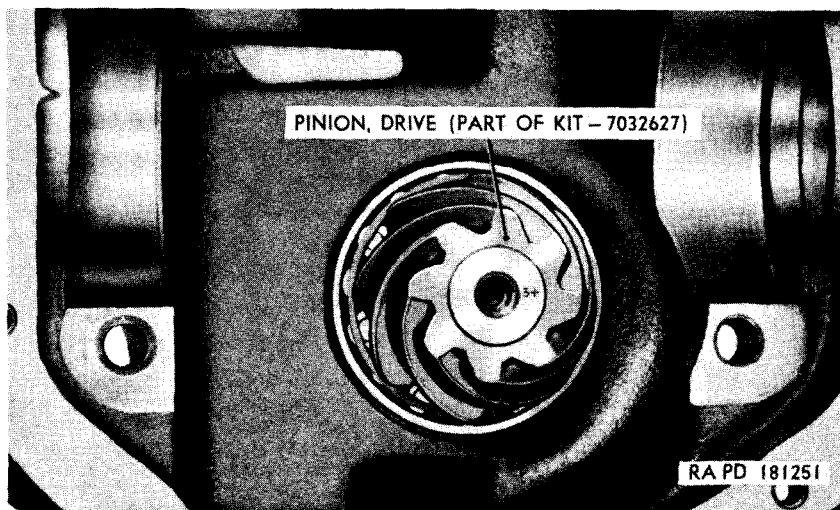

Figure 115. Front axle drive pinion inspection mark.
b. Adjust Drive Pinion. To compensate for manufacturing tolerances, drive pinions and drive gears are tested for quietness and tooth contact at a standard cone setting. Since drive pinions may vary from this setting, the variation is marked on the polished head of the pinion (fig. 115). The drive pinion is marked plus or minus the number of thousands that it is above or below standard. Plus indicates that drive pinion is too close to center line of axle. Minus indicates that drive pinion is too far from center line of axle. Refer to figure 115 for typical inspection mark which shows that drive pinion is 0.003 inch too close to center line of axle. The drive pinion setting gage set 41-G-535-700 is provided to measure the distance from finished surface on drive pinion head to the center line of the differential case bearing bore. By establishing this distance, the correct amount of drive pinion shims to be installed or removed may be determined to correctly position drive pinion. The drive pinion setting checking gage 41-G-98-750, a component of gage set